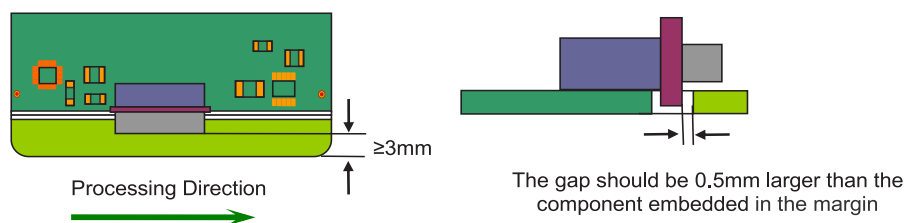

Figure 6: Protruding component margin gap requirements.
- For non-reflow soldering, when a component protrudes out from the PCB, the component must fit into the margin with 0.5mm clearance as shown in Figure 6.